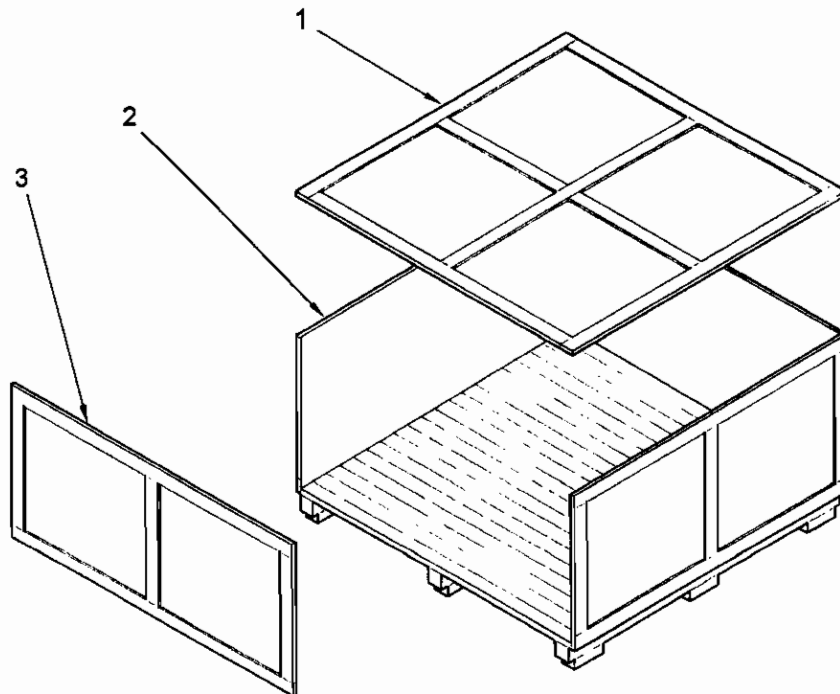

Figure 4-1. AAFARS Reusable Shipping Crate
4.2 UNPACKING. (Refer to figure 4-1.)